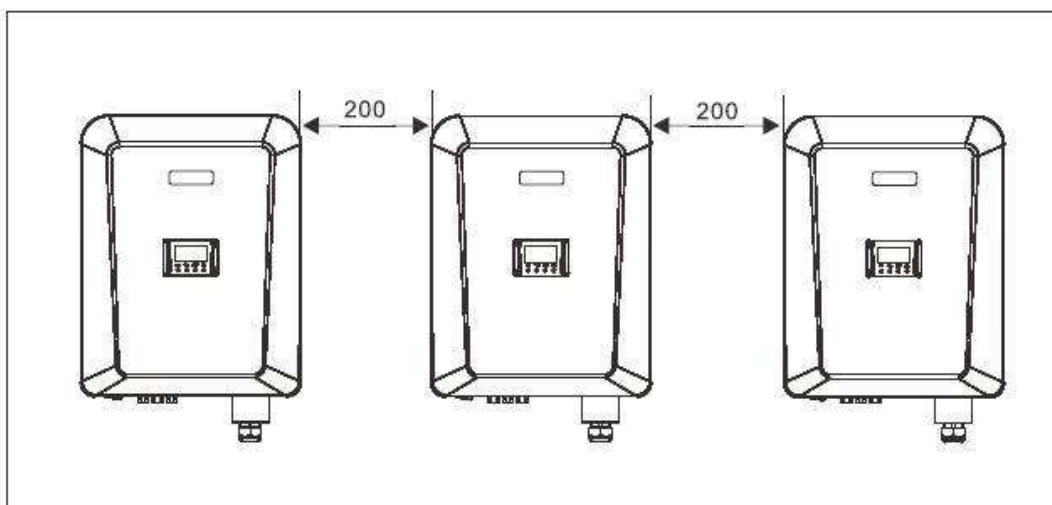
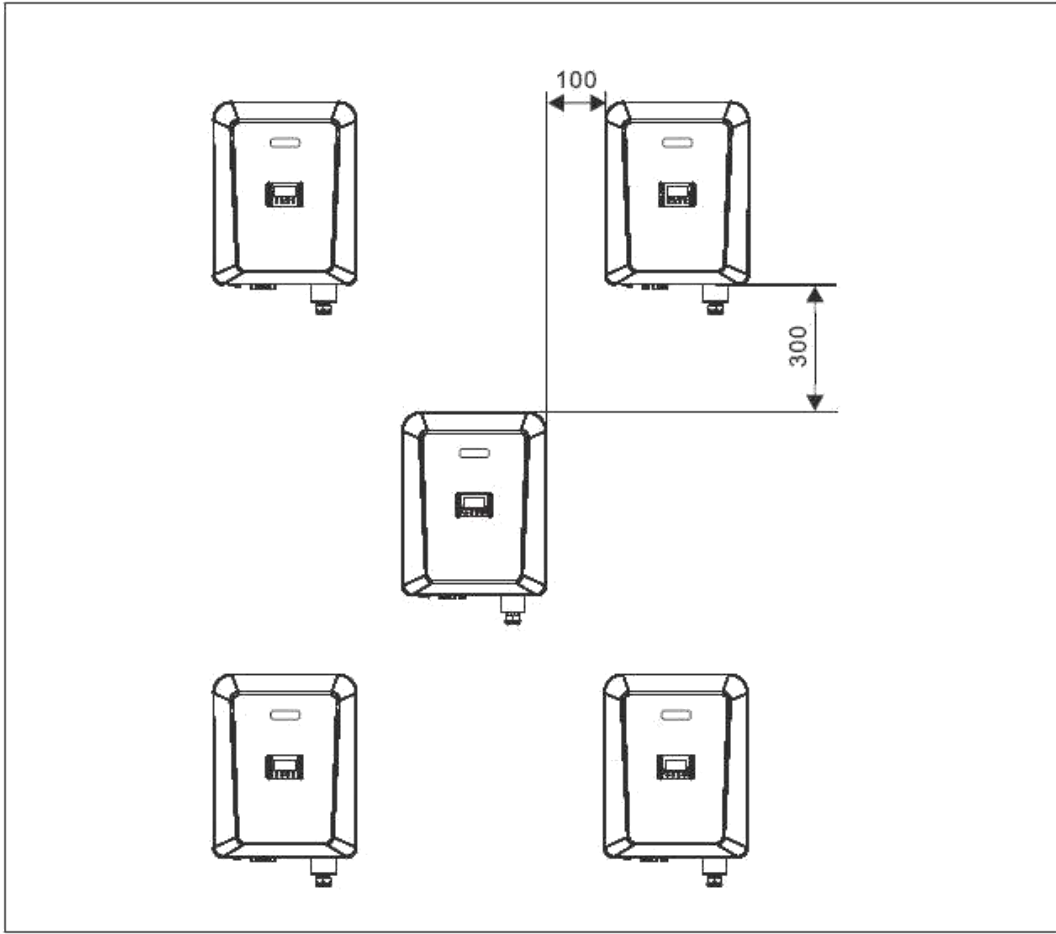

Figure 4.5 Installation along the same line (unit: mm)
Figure 4.6 Installation in triangle mode (unit: mm)
c. When installing multiple inverters, install them along the same line (as shown in Figure 4.5) if sufficient space is available, and install them in triangle mode (as shown in Figure 4.6) or in stacked mode (as shown in Figure 4.7) if no sufficient space is available. The installation modes ensure sufficient space for installation and heat dissipation.